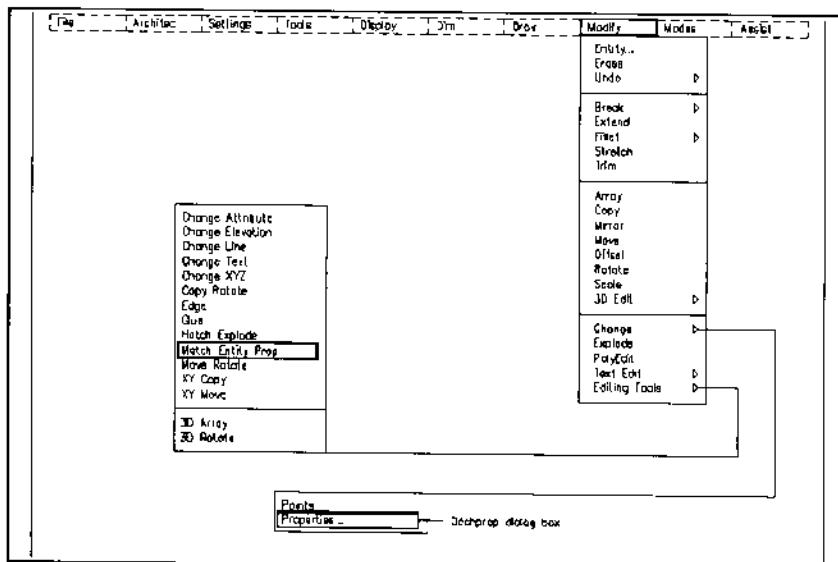
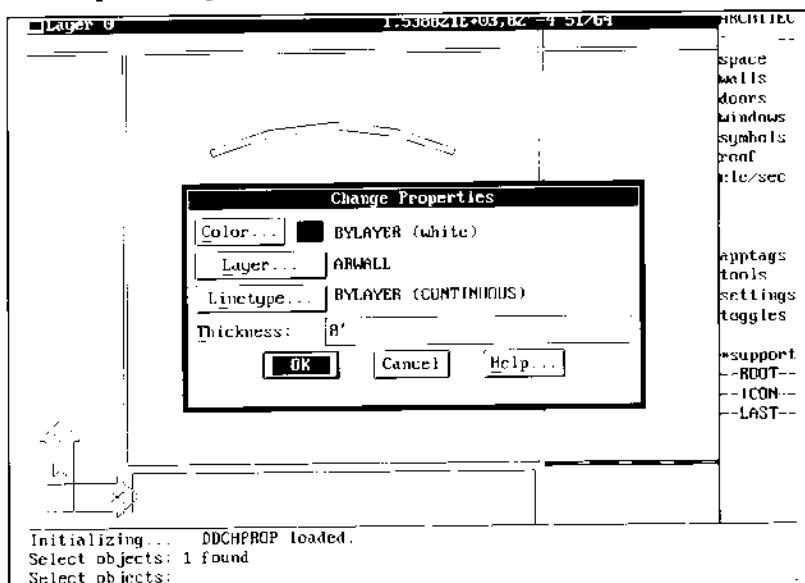
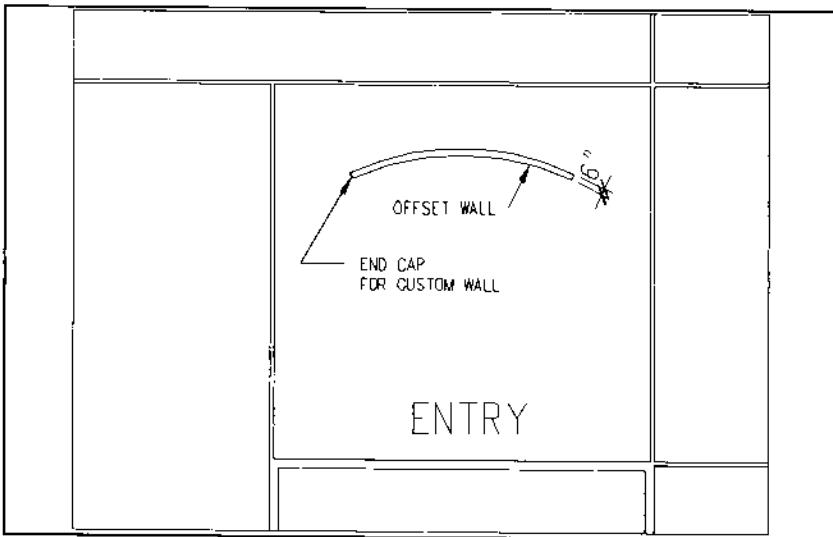

Figure 34.
Figure 35.
Figure 36.
3. Change the arc to the ARWALL layer using the Match Entity Prop command from the Modify menu as shown in Figure 34. Select the arcs and respond to the LA option to match by layer.
4. Use the Properties... option of the Change command from the Modify pull-down menu as shown in Figure 34 and change the wall thickness to 8'. When the Ddchprop dialog box opens, enter 8' in the Thickness: edit box as shown in Figure 35, then pick OK. The arc will be on the layer ARWALL and 8' high.
- > [**Enter 8'** in Thickness: edit box as shown in Figure 35]
5. Select OFFSET from the Modify pull-down menu as shown in Figure 34. Specify a distance of 6" for the offset shown in Figure 36.
6. Use the End Caps command from Walls on the Architec menu to cap the walls at each end as shown in Figure 36.